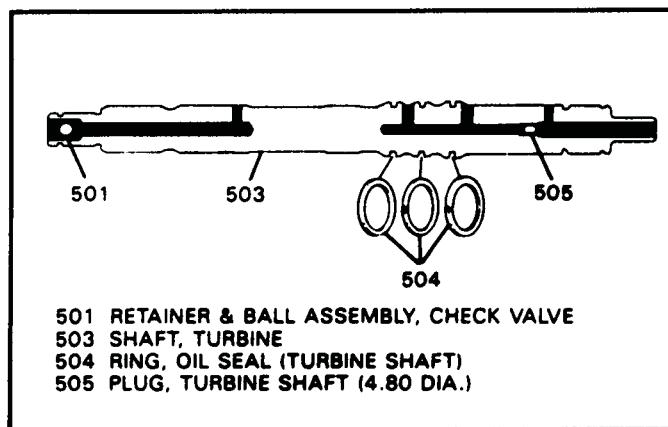

Figure 114
4. Inspect the turbine shaft for the presence of the cup plug (505), as shown in Figure 114.
5. Inspect the turbine shaft for proper operation of the ball capsule (501) (See Figure 114).